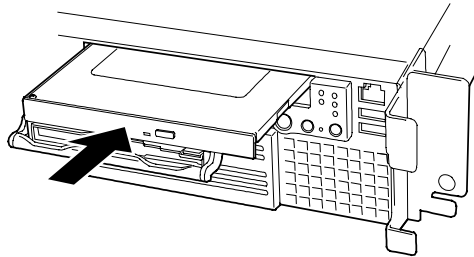

Figure 4-64. Inserting a Device into the Flex Bay
5. Insert the floppy disk or CD-ROM drive straight into the flex bay. See Figure 4-64.